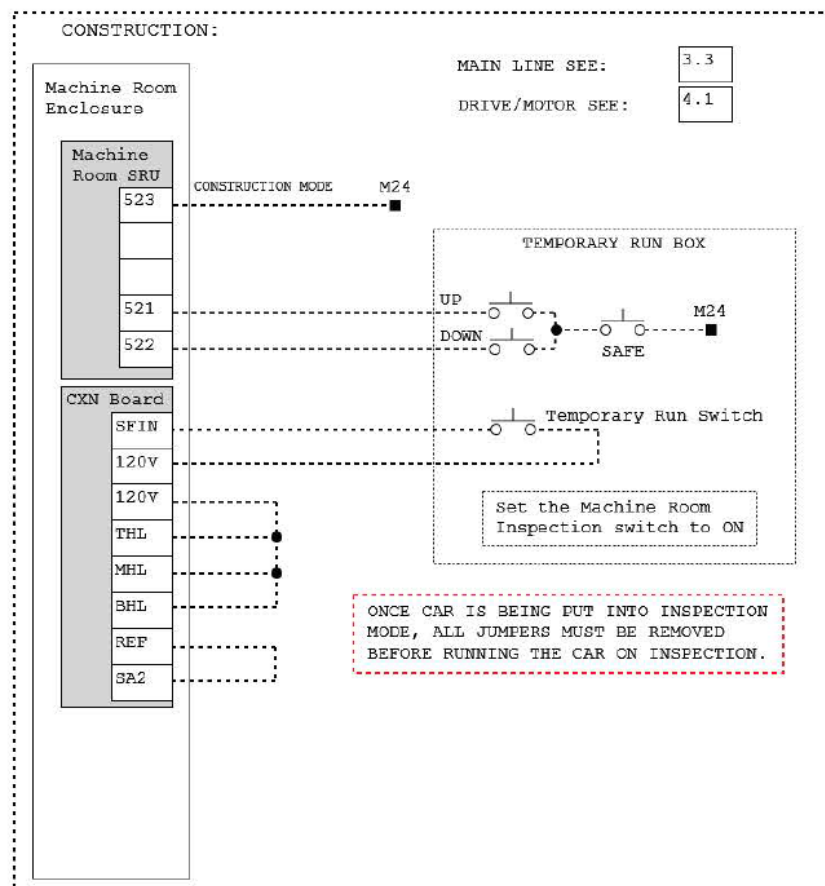

Figure 6: Example of Construction Wiring
- Figure 6: Example of Construction Wiring5